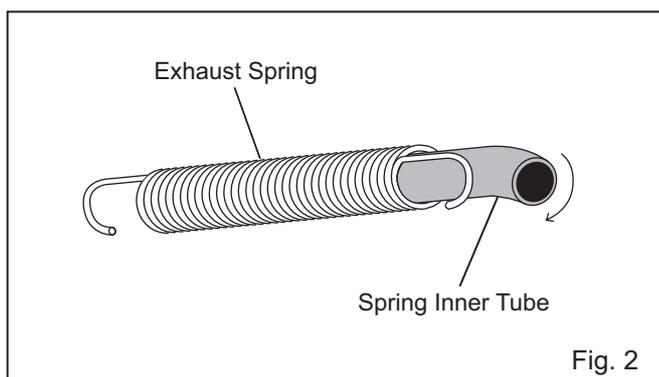

Fig. 2
- 3) Insert 2 of Spring Inner Tube into 2 of Exhaust Spring. (See Fig. 2)